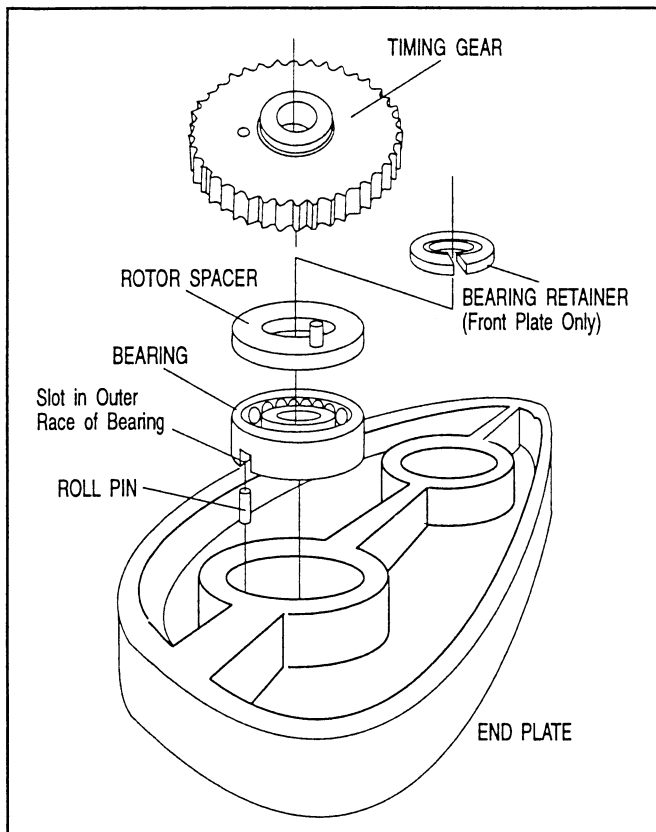

Figure 4-2 End Plate, Bearing, Spacer, Retainer and Timing Gear Alignment Detail
2. Install bearings (item 6) into the bearing bore of the front end cover (item 3). Press into place until the bearings are bottomed. Refer to Figure 4-2 for correct alignment.
4. Align the port openings of the front cover (item 3) with those of the meter body (item 1) using care to align the two locating dowel screws (item 27) with the corresponding holes. Secure the front end cover to the measuring unit body using socket head screws (item 28). Alternate from one side to the other when tightening.
7. Attach the rear end cover (item 2) to the body using care to align the two locating dowel screws (item 27) with the corresponding holes.
8. Install the ball bearings (item 6) within the bearing bore of the rear end cover (item 2). Press into place until bottomed. See Figure 4-2 for correct alignment.